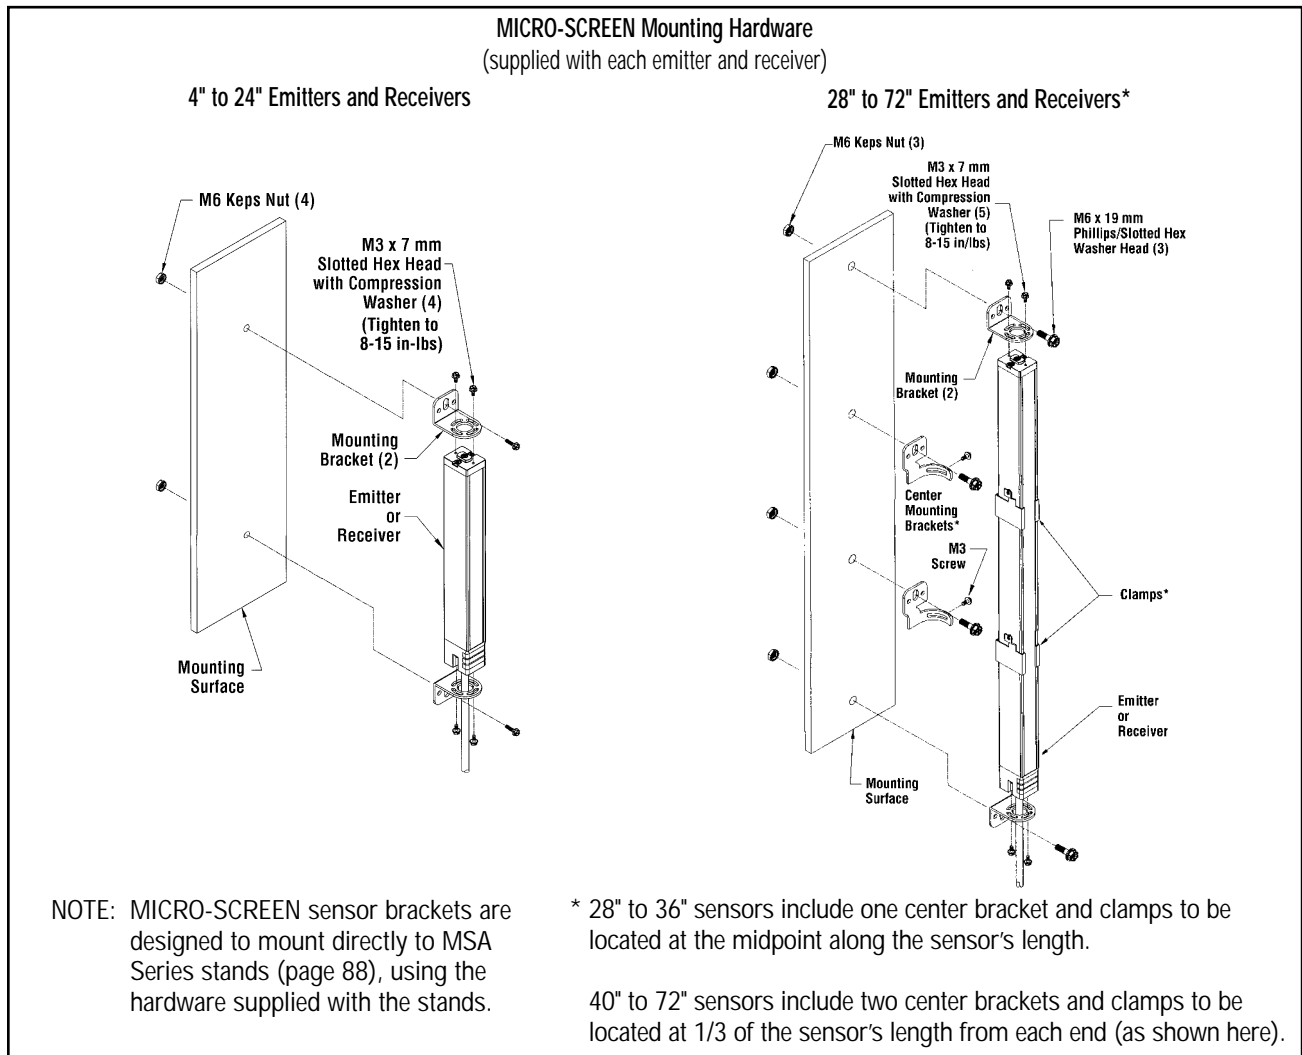

Figure 3-8. Emitter and receiver mounting
Important: The connector ends of both sensors must point in the same direction (see drawings and WARNING, page 27). Mount the emitter and receiver brackets using M6 bolts and Keps nuts (all supplied); see Figure 3-8.
Center mounting brackets must be used with longer sensors to provide sensor stability. Sensors 28" to 36" long are supplied with one center bracket, which should be positioned at the center of the sensor's length. Sensors 40" to 72" long are supplied with two center brackets, which should be positioned 1/3 of the sensor's length from each sensor end. Refer to Figure 3-8 for the following steps.
- 2) Compress the foam spacer and slide the clamp along the length of the sensor housing to align the clamp with the center mounting bracket as shown in Figure 3-8. Three separate mounting holes are provided on the clamp to allow for all possible mounting configurations.